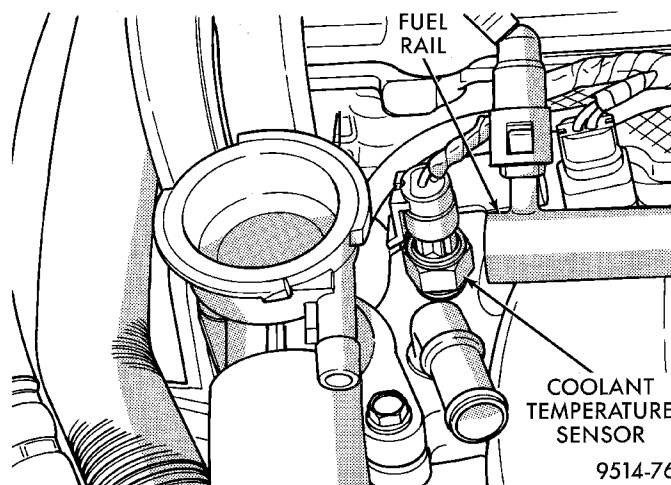

Fig. 22 Engine Coolant Temperature Sensor
(8) Disconnect the coolant temperature sensor (Fig. 22).
(9) Remove fuel rail assembly attaching screws and remove fuel rail assembly from engine. Cover injector holes with suitable covering.